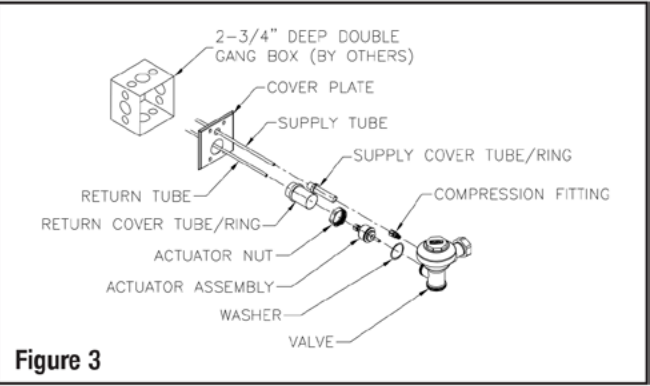
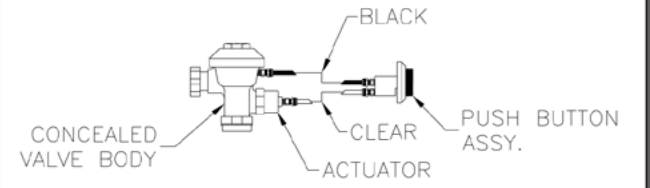

Figure 3
Figure 4
- Run the black inlet tube of the push button (Figure 4) through the small hole of the cover plate (Figure 3).
- Run the clear outlet tube of the push button (Figure 4) through the large bottom hole of the cover plate (Figure 3).
- Loosely mount the cover plate to the electrical box (Figure 3).
- Run the top black nylon tubing through the small cover tube and small cover tube ring (Figure 3).
- Run the top clear bottom nylon tubing through the large cover tube and large cover tube ring (Figure 3).
- Place the main valve body in position and connect the nylon tubing to the compression fittings on the back of the flushometer (Figure 4).
- Tighten the four screws on the wall plate using the hex wrench (Figure 3).
- Push the cover tube rings against the cover plate and tighten the setscrews (Figure 3).